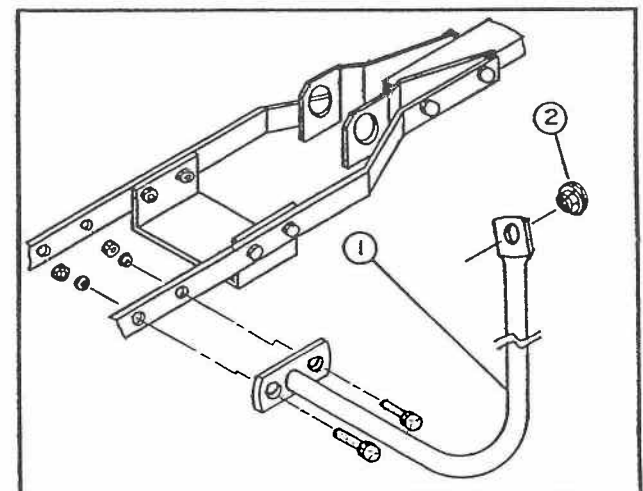

FIGURE 3
- i) Install handle support bracket (fig.3, item 1) on left hand subframe flatbar using two 3/8" x 1 1/4" bolts, lockwashers and nuts.